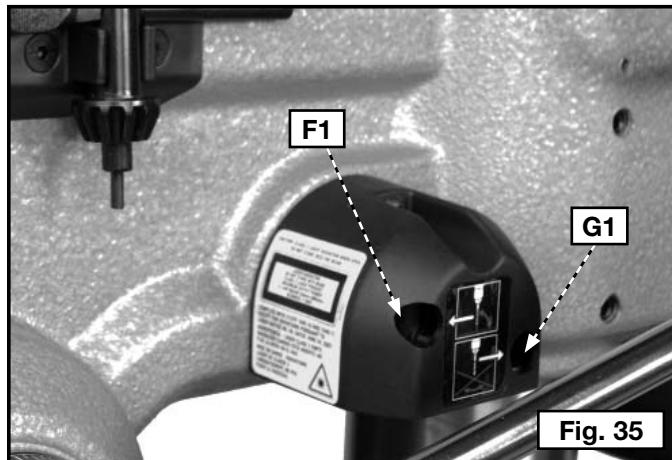
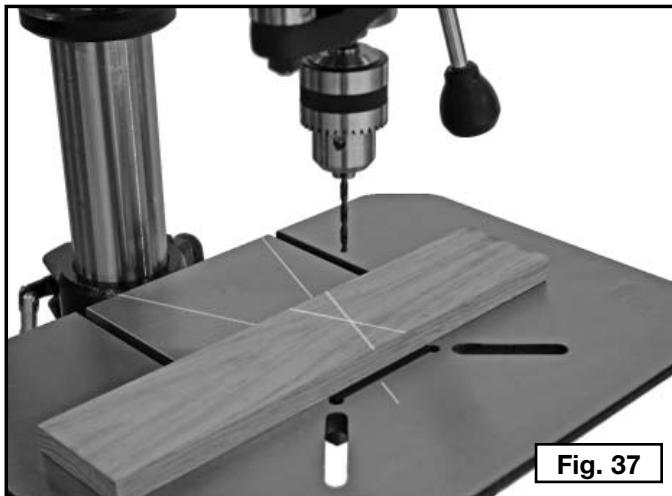

Fig. 35
Fig. 37
1. Using an included hex key, turn the front screw (F1) Fig. 35 on the right laser pod so that its red line is parallel with the line you drew on the board.
1. Lay board flat on table (as shown in Fig. 37) and make sure it does not move.
3. For both lasers, use the same hex key in the the back screw (G1) (Fig. 35 and 36) and dial the lasers so they both cross this point together, as shown in Figure 37.